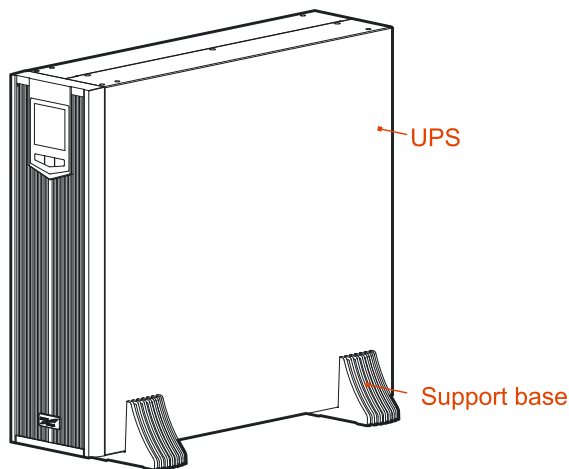

Figure3-2 Install the UPS
Step 2 Put the UPS onto the assembled support base, as shown in Figure3-2.